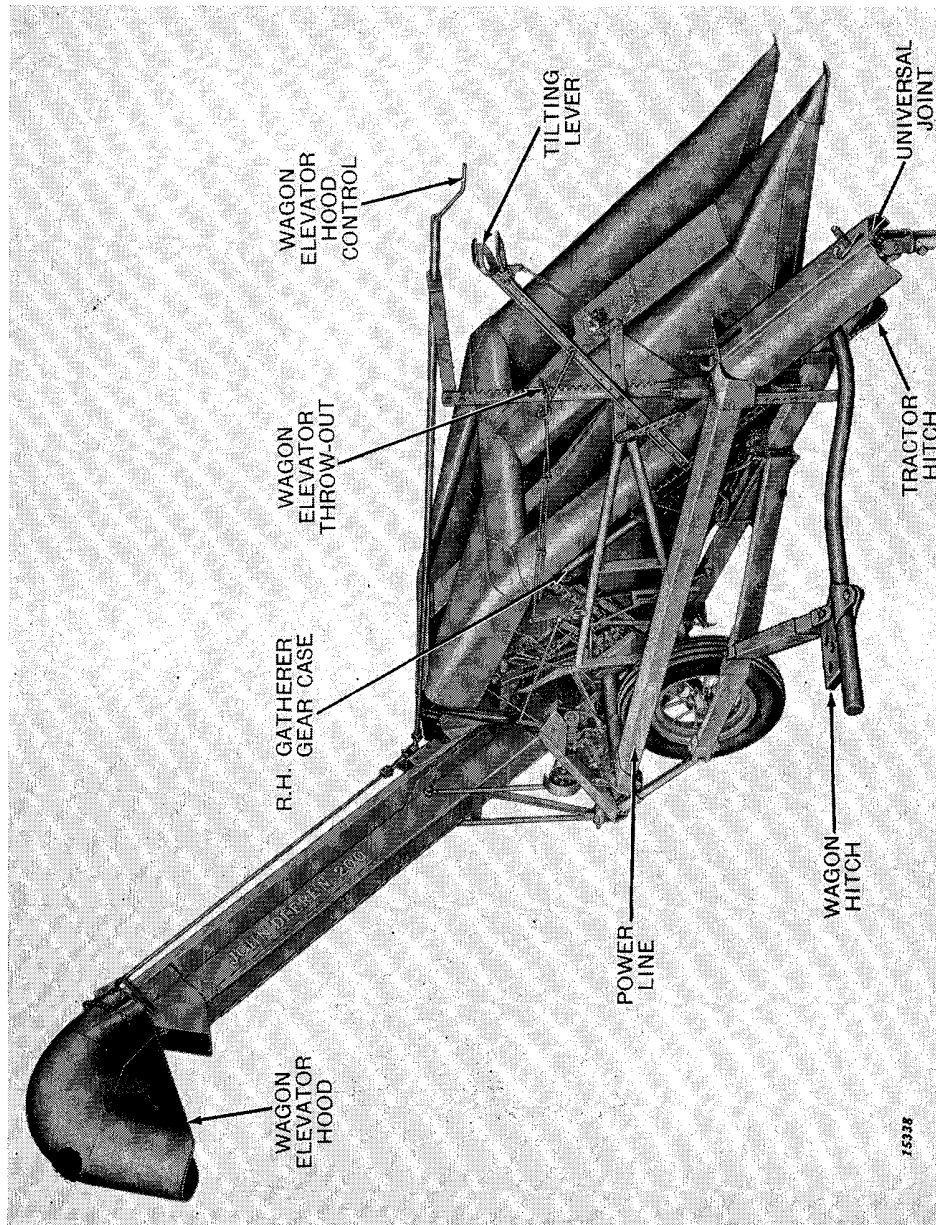

Figure 2—Complete View of John Deere No. 200 Corn Picker
**Tilting Lever (Figure 2).** The tilting lever raises and lowers the gatherer points. Under most conditions, run the gatherers with the points just touching the ground; raising them only to clear obstructions and when crossing rows. The gatherer points can be fully raised or lowered, or set in any intermediate position with the tilting lever.
**Wagon Elevator Throw-Out Lever (Figure 2).** The wagon elevator clutch throw-out lever rod is conveniently located near the tractor seat. The lever is used to stop the elevator when turning at row ends or when changing wagons. The corn is stored in the large wagon elevator hopper when the elevator is not operating.
**Wagon Elevator Hood Adjusting Crank (Figure 2).** The wagon elevator hood can be turned by means of a crank within easy reach of the operator on the tractor seat. The rotating hood can be turned in any position from front to rear to load the entire wagon evenly.